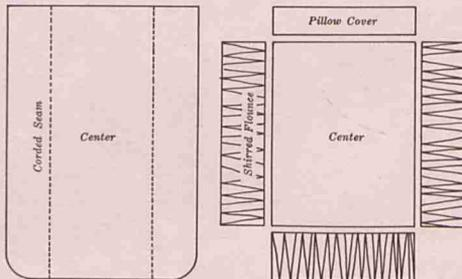

Figure 3
9. The sheet should tuck underneath the mattress $2\frac{1}{2}$ to 3 inches in order to keep it in place, as shown in Fig. 3.